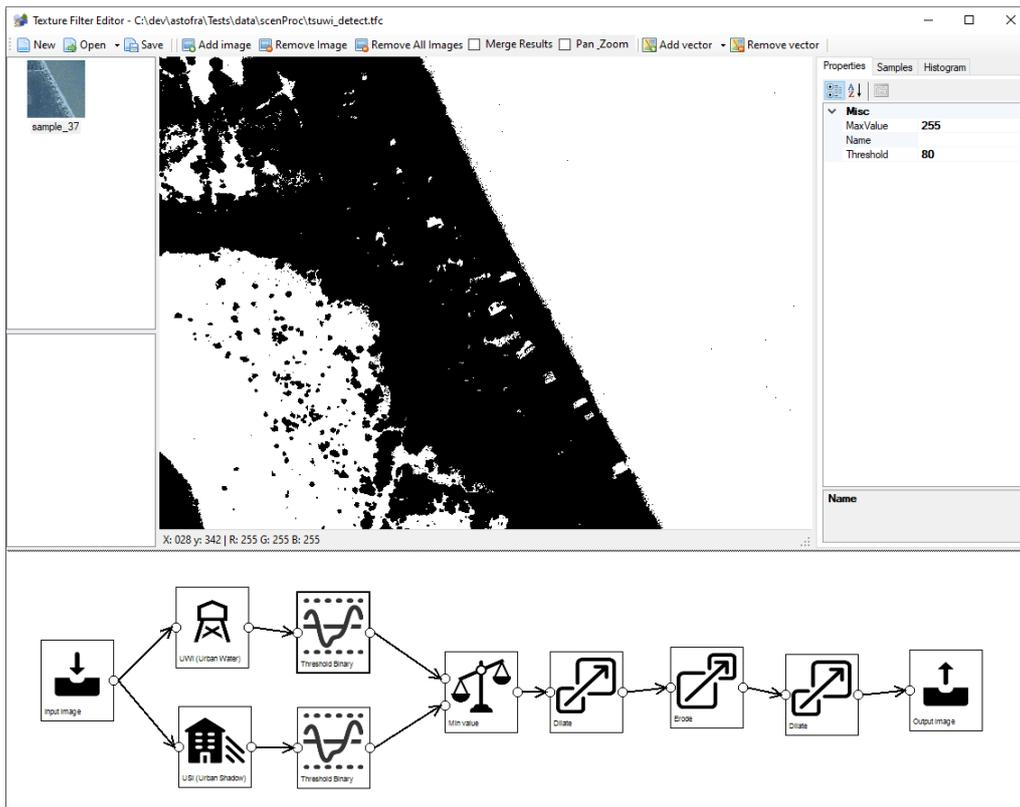

Figure 6.41: Applying a threshold to the UWI value to select areas with water
3. Binary threshold with a value of 80 to select only the areas with a lot of water, see Figure 6.41.